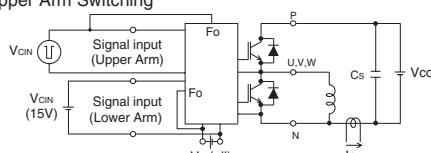

Fig. 3 Switching Time and SC Test Circuit
| t on      | Switching Time                       | V D =15V, V CIN =0V↔15VV CC =600V, I C =150AT j =125°CInductive Load(Fig. 3,4) |                       | 0.3  | 0.8  | 2.0  |
| SC                    | Short Circuit Trip Level                | —20 ≤ TJ ≤ 125°C, VD = 15V                                      | (Fig. 3,6)  | 300  | —    | —    |
| t off (SC) | Short Circuit Current Delay Time        | VD = 15V  | (Fig. 3,6)  | —    | 0.2  | —    |